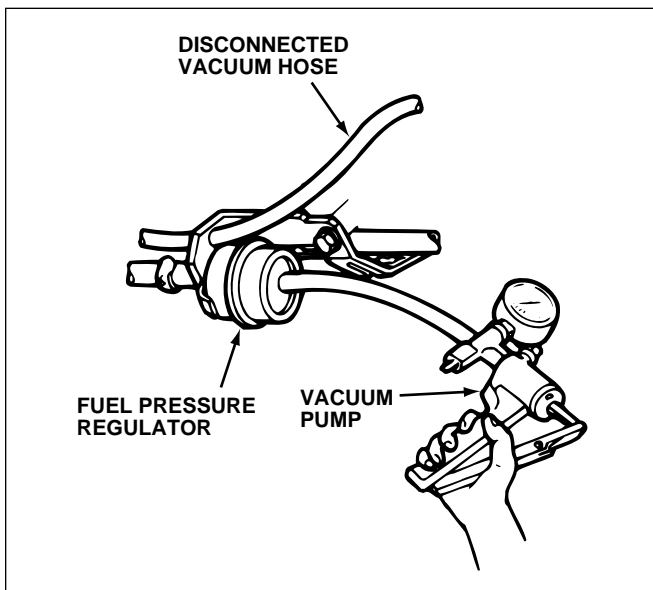

Fig. 5-4. Relieving residual fuel pressure by applying vacuum to the pressure regulator.
- Apply vacuum to the fuel pressure regulator using a hand-vacuum pump, figure 5-4